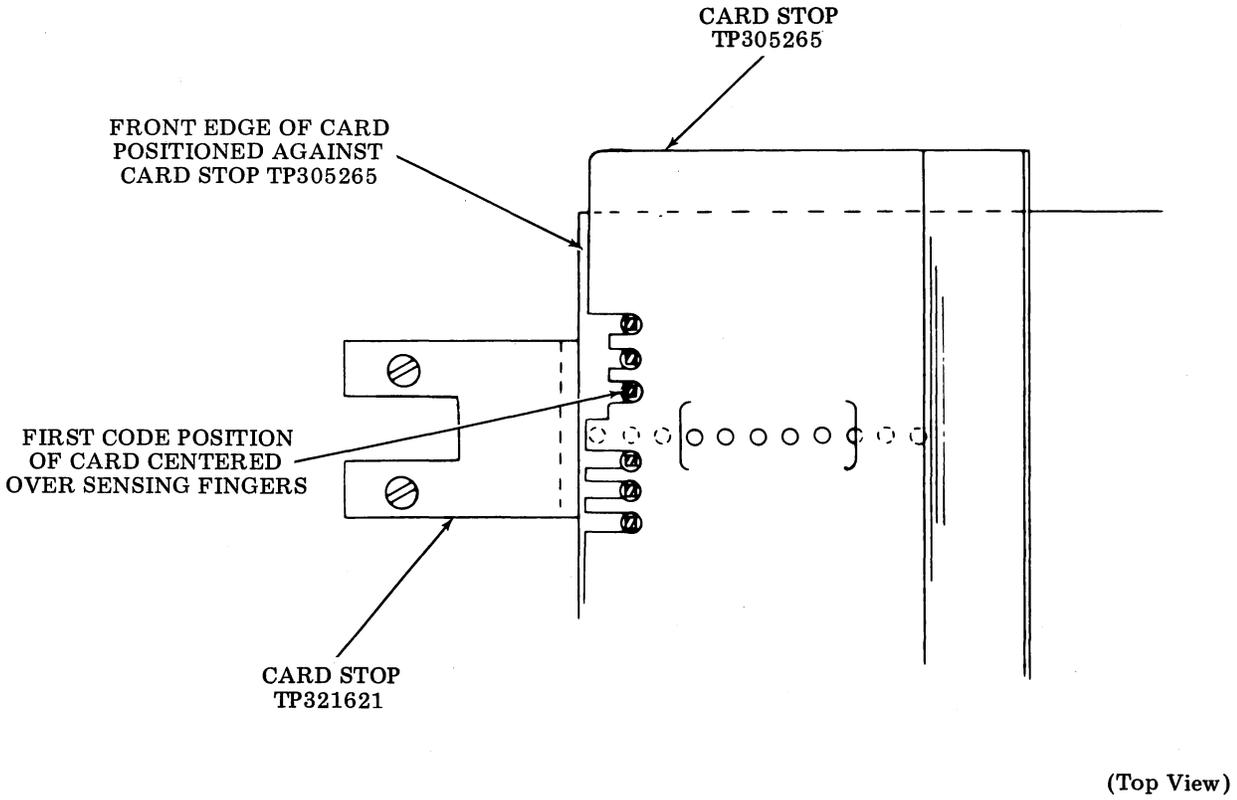

Figure 9 - Reader Stop Plate
3.05 This step is concerned with causing the card to be inserted the correct distance in the card reader by the feeder. The feeder is controlled by the card-in contact on the card reader. When a card has been inserted into the reader a given distance, its leading edge will cam down the card-in actuator arm and break the card-in contact. This is the signal for the feeder relay to fall out and cause feeding to stop. The object then is to position the actuator arm so that the card is driven firmly against the card stop (Figures 9 and 10). Remove the cover from the card reader. With the feeder and the card reader running, place a card in the feeder. By holding down on the STOP switch on the card reader top plate, a card may be inserted into the reader without the lid solenoid causing the sensing to start. By this means it is easy to determine if the drive of the feeder is sufficient to cause the card to move against the card stop. If the card is not completely up to the card stop, or if it is overdriven so as to damage the card, it will be necessary to proceed as follows: